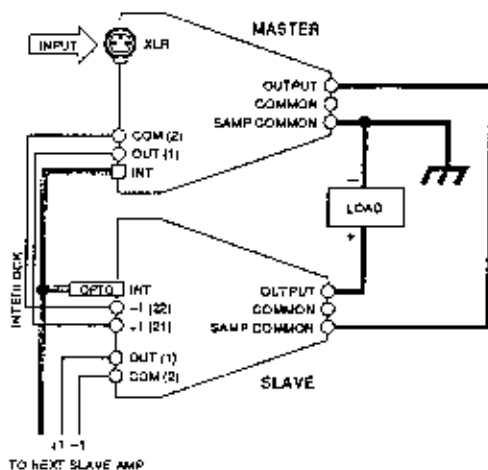

Fig. 3.20 Interlock Series System Wiring
**IMPORTANT:** To protect each amplifier from damage, the interlock system for each unit above ground **MUST** be protected with an optical isolator. These optical isolators are available from Crown. (Contact the Crown Technical Support Department for further information.) Figure 3.20 shows the basic system connections:
4. Make an interlock cable as shown in Figure 3.20 and connect it to the 37-pin System Interlock connector of each amplifier. Be sure to use optical isolators (available from Crown) for protection.